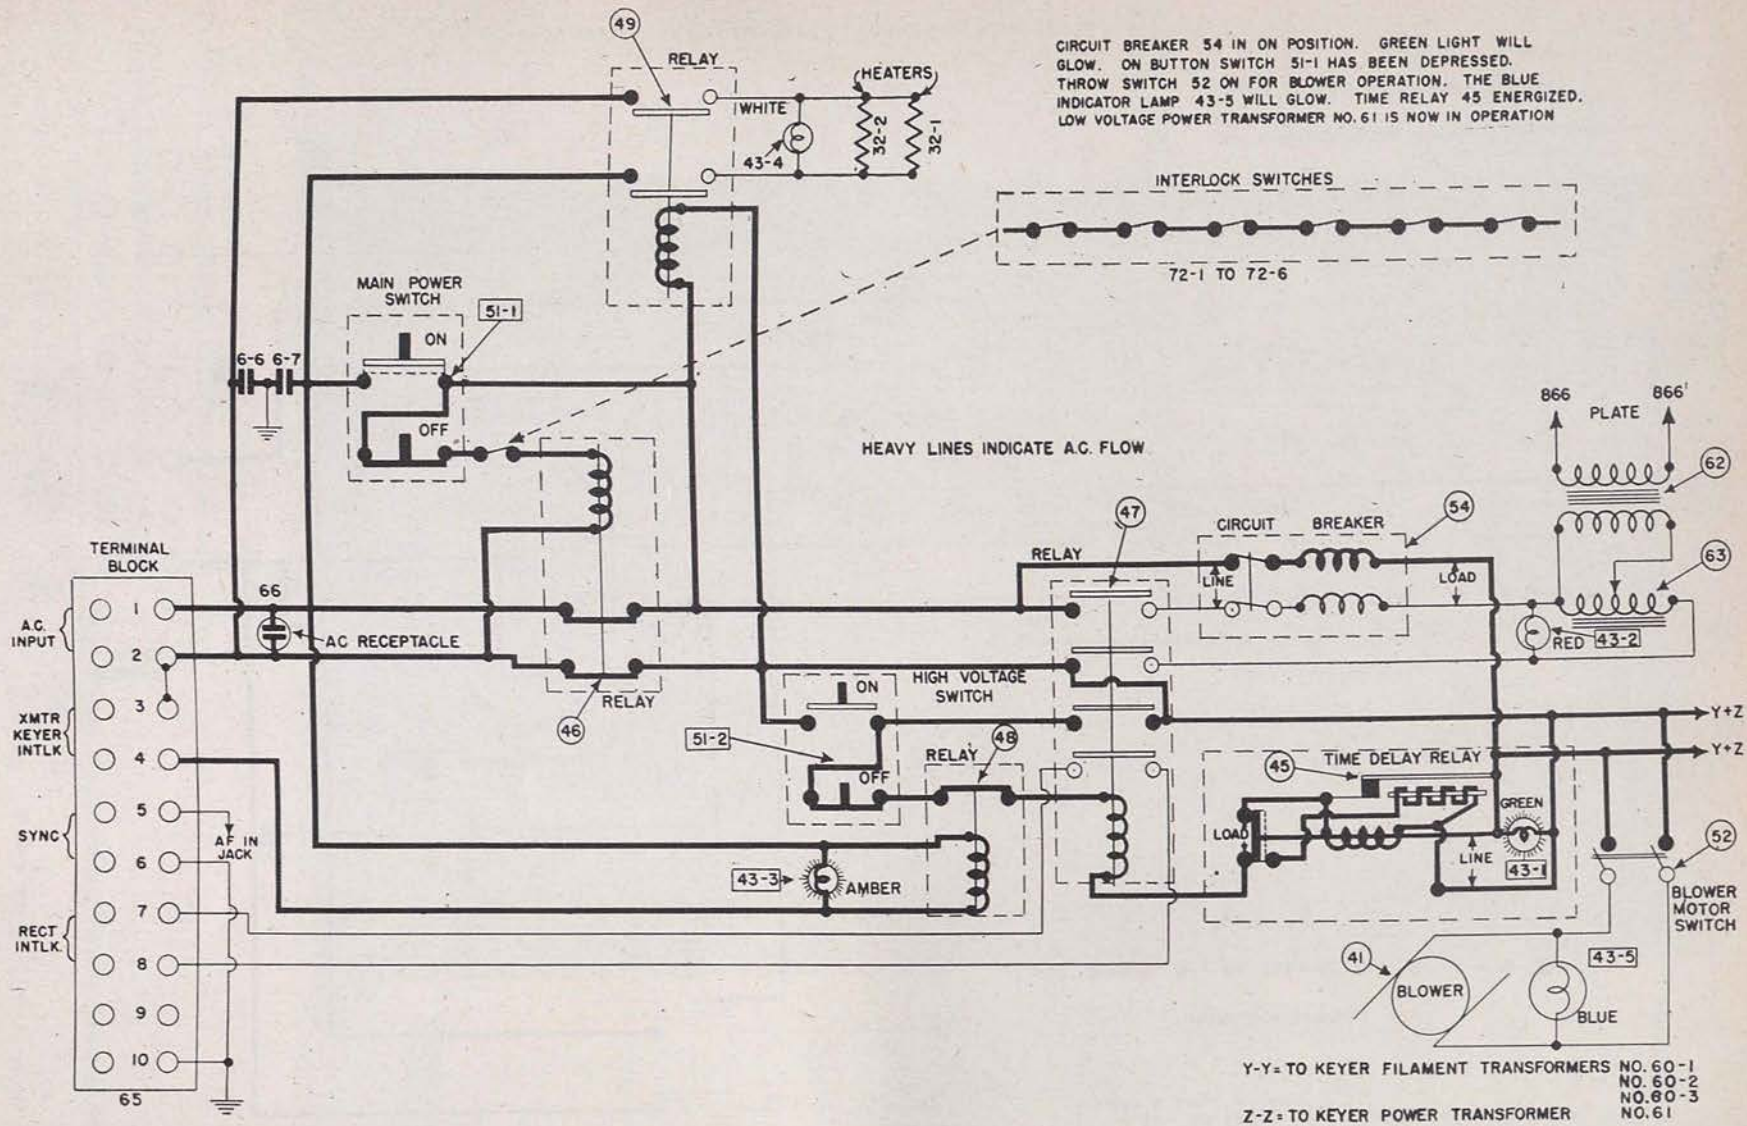

Figure 33. Keyer BC-758-A, relay circuit, circuit breaker ON.
(3) *Electrical* (fig. 33.) (a) Power is supplied to the low-voltage power supply transformer 61.